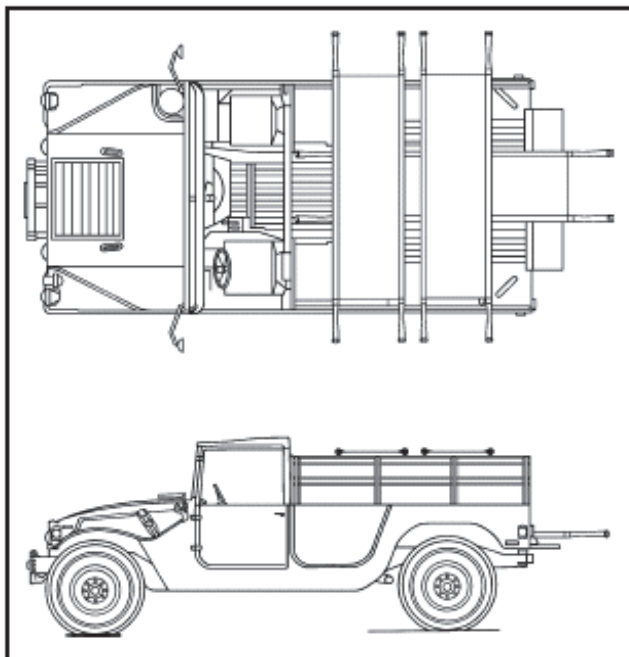

Figure 3-17. Load an M998
2. Direct nonmedical Soldiers to load an M998 (four-seat configuration). (See Figure 3-17.)